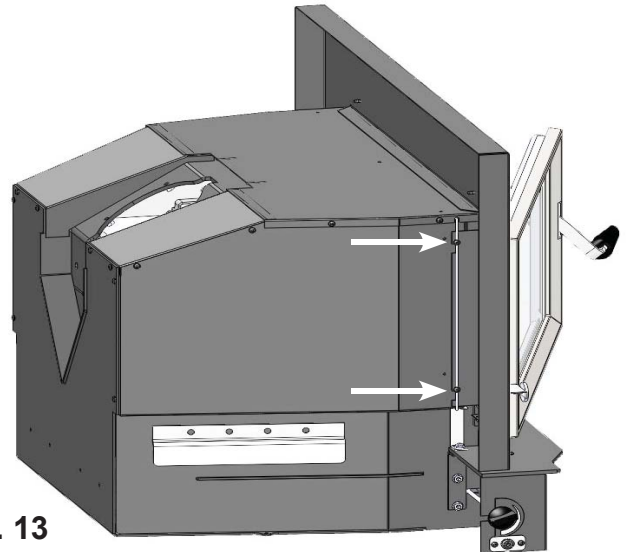

Fig. 13
2. **WITH THE LOADING DOOR OPEN**, align notches on the left side of the rear shroud with the screws protruding out of the firebox can. Once in position, do the same with the right side of the rear shroud. Push back and downwards on shroud to ensure it is locked in place then tighten all four screws using a #2 Robertson screwdriver. (**Fig. 13**)